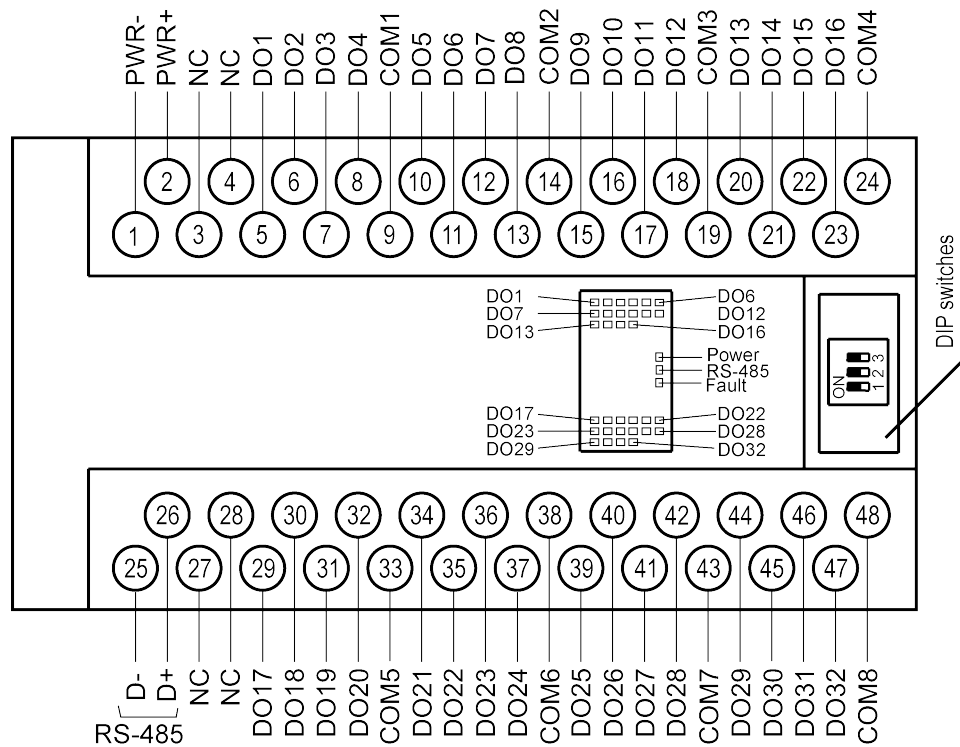

Fig. 5.1 Electrical connections
2. Open the front cover of the module (see Fig. 5.1).